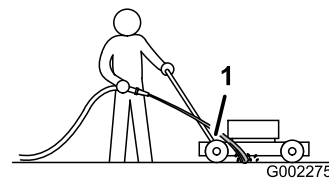

Figure 33
- Hold the running garden hose at handle level and direct the water to flow on the ground just in front of the right rear tire (Figure 33).